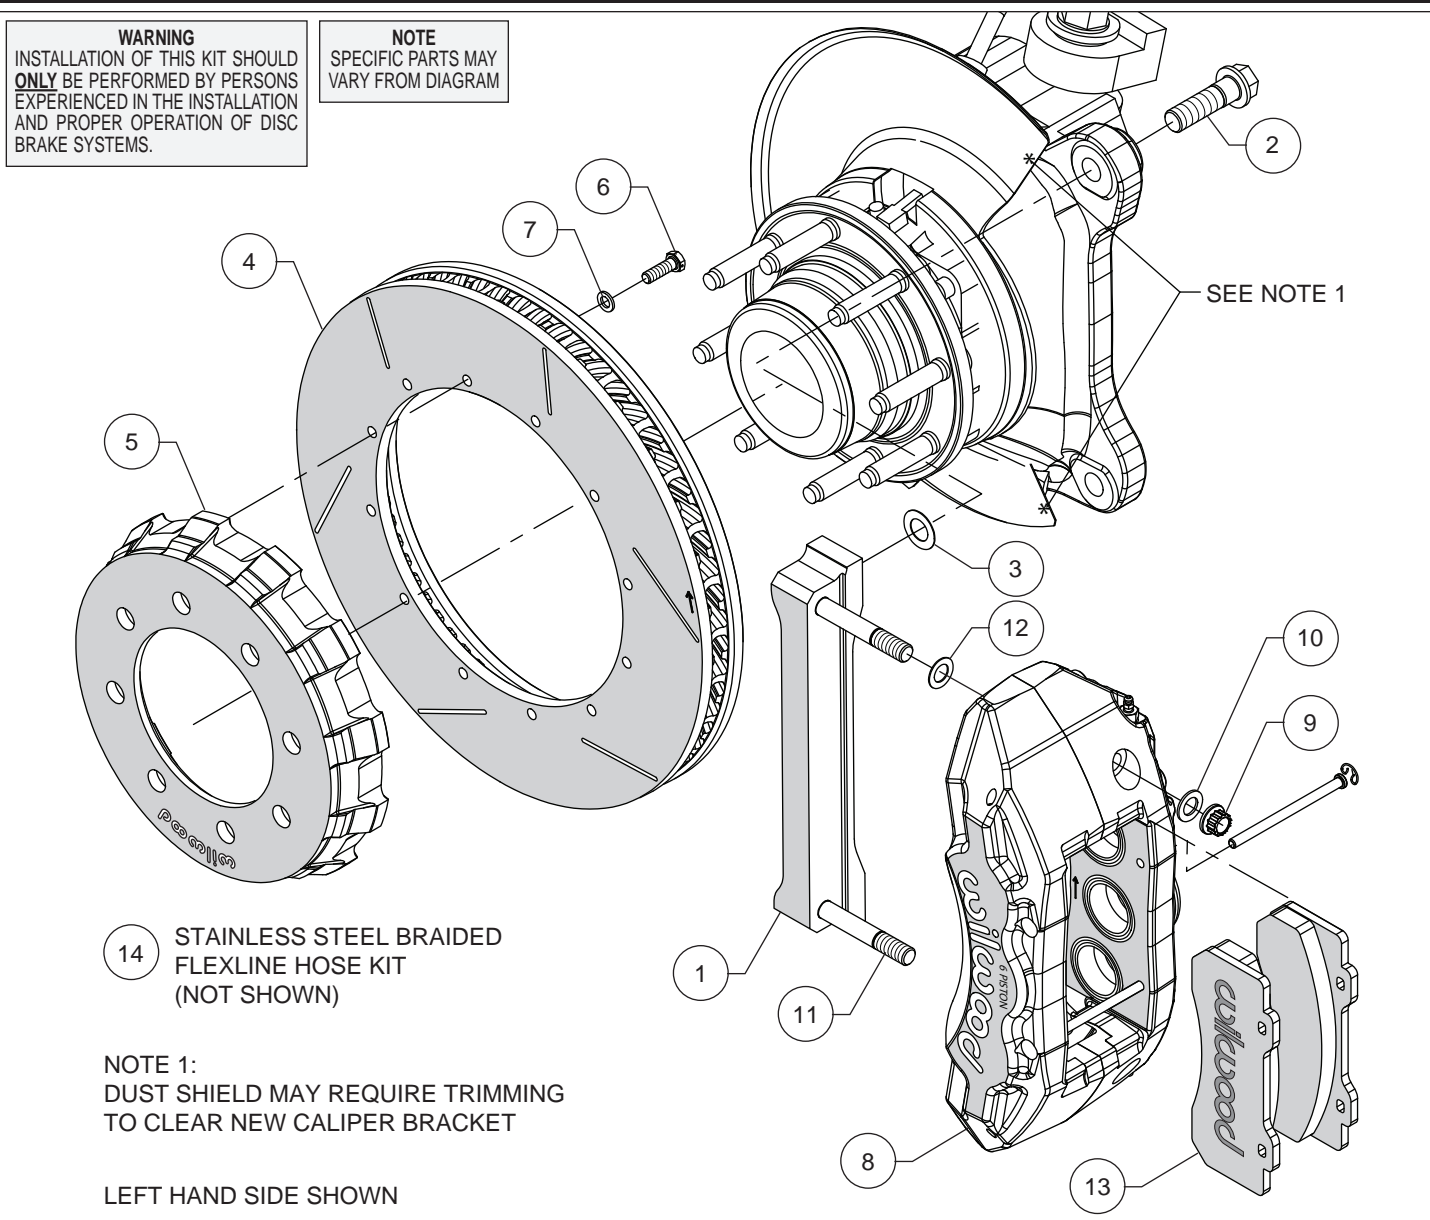
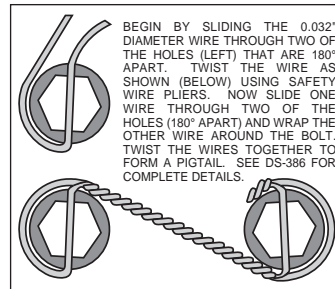

Figure 1. Typical Installation Configuration
Figure 3. Safety Wire Diagram
**Assembly Instructions** (numbers in parenthesis refer to the parts list and Figure 1 on the preceding pages):
- The caliper mount bracket (1) should initially be installed with clean, dry threads on the mounting bolts. Orient the bracket as shown in Figure 1 and Photo 1, and install using bolts (2). Initially place one .024 thick shim (3) on each bolt between the bracket and upright, Figure 1. Temporarily tighten the mounting bolts. **NOTE:** The bracket must fit squarely against the mount bosses on the upright. Inspect for interference from casting irregularities, machining ridges, burrs, etc. as well as the dust shield which may need to be trimmed just a little. Later, after the caliper alignment has been checked, the mount bolts will be torqued to specification.
- Orient the rotor (4) and the hat (5) as shown in Figure 1 and Photo 2. Attach rotor to hat using bolts (6) and washers (7). Using an alternating sequence, torque to 25 ft-lbs. For an added measure of security, the bolts may be safety wired using standard 0.032 inch diameter stainless steel safety wire as shown in Figure 3. Please refer to Wilwood's data sheet DS-386 (available at [www.wilwood.com/Pdf/DataSheets/ds386.pdf](http://www.wilwood.com/Pdf/DataSheets/ds386.pdf)) for complete safety wire installation instructions.
- **NOTE:** This kit contains distinct right and left hand calipers that must be mounted in a specific direction, as described below. Lubricate the caliper mounting studs (11) with lightweight oil. Initially place one .032" thick shim (12) on each stud as shown in Figure 1 and Photo 3. Mount the caliper (8) onto the bracket (1) using lock nuts (9) and washers (10), Figure 1. Ensure that the caliper is mounted so that the largest pistons are at the rotor exit end of the caliper, in relation to the direction of rotor rotation. Temporarily tighten the lock nuts and view the rotor through the top opening of the caliper. The rotor should be centered in the caliper, Photo 4. If not, adjust by adding or subtracting shims (3) between the bracket and the upright. Always use the same amount of shims on each of the two mounting bolts. Once the caliper alignment is correct, torque bolts (2) to 120 ft-lb.